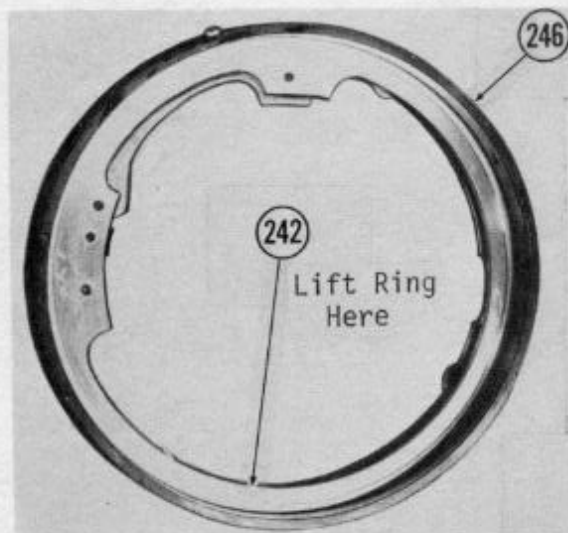

Fig. 51
- 5.6.1.7 Remove Auto Diaphragm Cam Ring (242) with Diaphragm Screw (241) by lifting Cam Ring at point shown in Fig. 51.